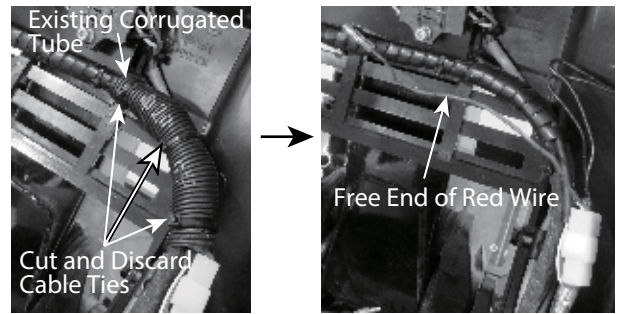

Figure 20. Free End of Red Wire
- Cut and discard the cable ties from the existing corrugated tube. Then, take out the free end of red wire in corrugated tube. See Figure 20.